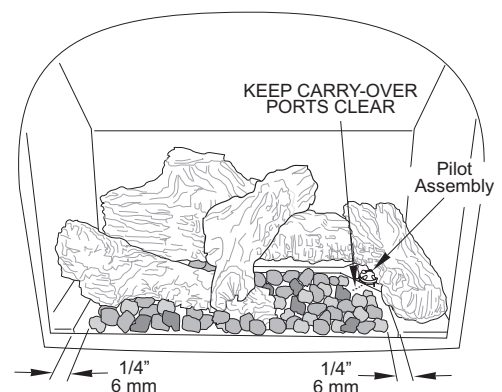

Figure 15. Spread ember stones over the burner plate.
5. Position embers loosely and maintain 6mm clearance from the burner skirt edges. DO NOT OBSTRUCT THE PILOT ASSEMBLY OPENING and do not pile the embers in front of the burner skirt edges. See fig. 15.